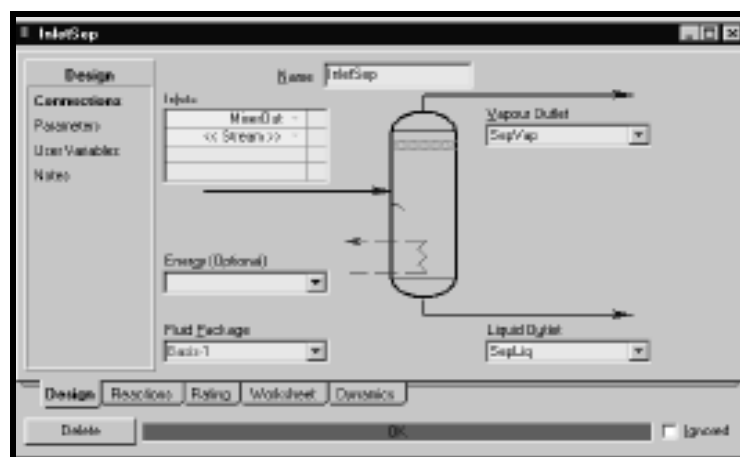

Figure 16: Completed Connection Page
The flash separator unit operation takes any number of input streams and separates the resulting mixture into a vapour and liquid stream. The input screen for this unit operation is shown in Figure 16, where stream 10 is being flashed into a vapour stream (stream 11) and a liquid stream (Stream 12). If there is no liquid present in the inlet streams, then the vapour stream will simply have no flow and the calculated composition will be the bubble point composition of the mixture.
10. Click on the **“Liquid Outlet”** cell, type the name **“SepLiq”**, then press **“ENTER”**. The completed Connections page will appears as shown in Figure 16.